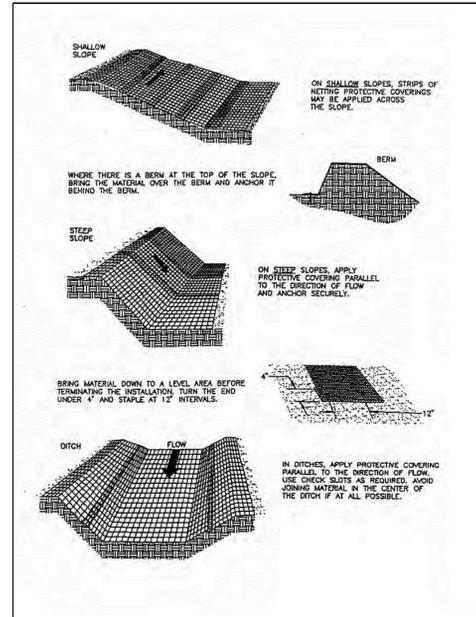

Figure 7.7a. Typical Orientation of Treatment 1 – Soil Stabilization Blanket
3. **Mulch Nets** – Lightweight plastic, cotton, or paper nets may be stapled over the mulch. The nets shall be secured by stakes, staples, or pins according to the manufacturer's recommendations (see Figure 7.7a for details).